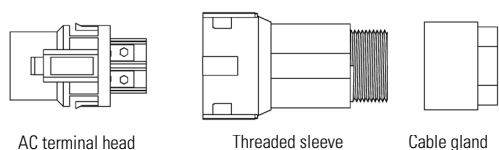

Fig. 26. AC connector.
- a. Extract the AC connector from the accessory bag and disassemble it, following the steps marked on Fig. 26: